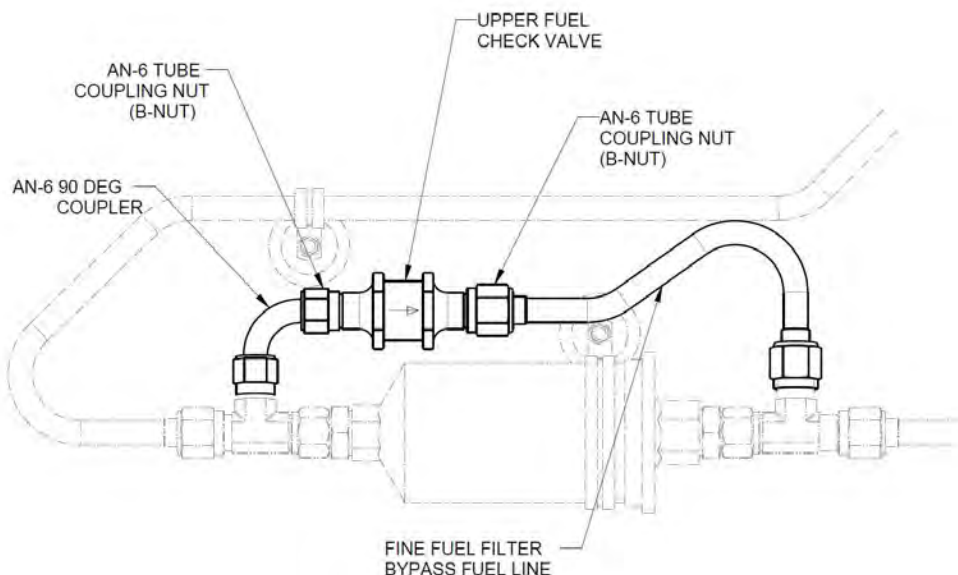

FIGURE 10-30
7. Loosen the AN-6 B-nut on each end of the Check Valve. (See Figure 10-30.)
NOTE: See the fuel flow direction in Figure 10-30.
3. Install the AN-6 90° Coupler. (See Figure 10-30.)